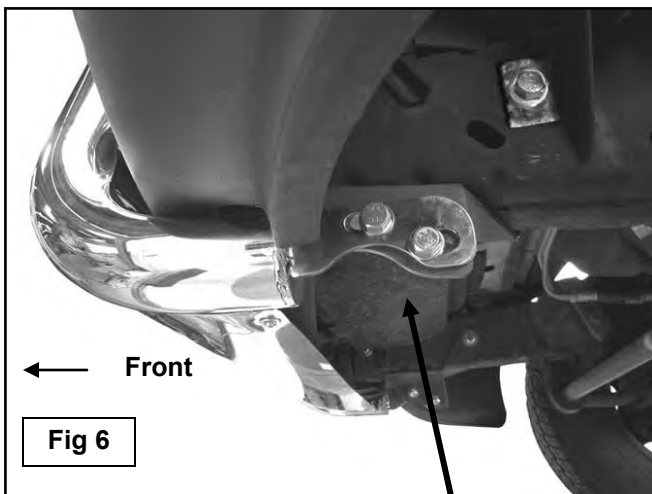

Fig 6
- a. Use the included (4) 12mm x 35mm Hex Bolts, (8) 12mm Flat Washers, (4) 12mm Lock Washers and (4) Hex Nuts, **(Figure 6)**. Do not tighten hardware at this time.
- b. Check the above measurement before cutting by first, bolting the Bull Bar to the rear mounting location only on both Brackets with (1) 12mm x 35mm Hex Bolt, (2) 12mm Flat Washers, (1) 12mm Lock Washer and (1) Hex Nut inserted into each Bracket to use as a hinge, **(Figure 6)**. Rotate the Bull Bar up to the bottom of the air dam. The center of the tube should match the vertical line drawn at 17-1/2" out from the center of the bumper cover.
- d. Once properly trimmed, reinstall the bumper cover and Bull Bar, (if removed), as previously described, **(Figure 6)**.